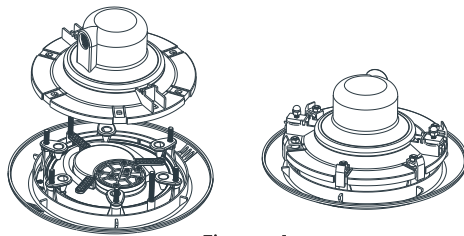

Figure 1
- 2) The existing installation of PAR56 bulb lamp under water instead of on the market, only the original PAR56 bulb is removed, the ultra-thin LED lamp disc attached to the face on the cover with the 6 positioning block is fixed, and then loaded on the bottom shell by screws (Figure 1).